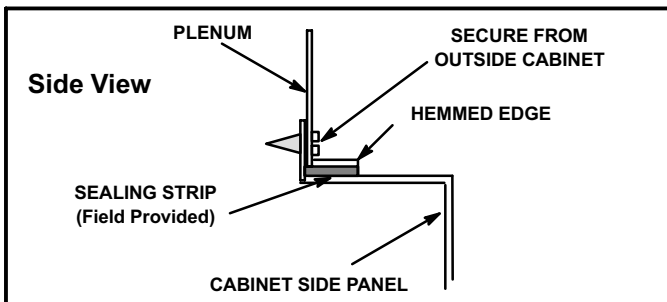

FIGURE 9
- 1 - Bottom edge of plenum should be flanged with a hemmed edge (See figure 9).